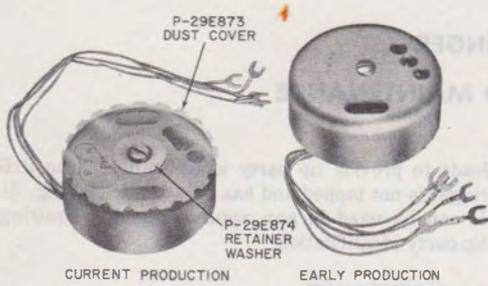
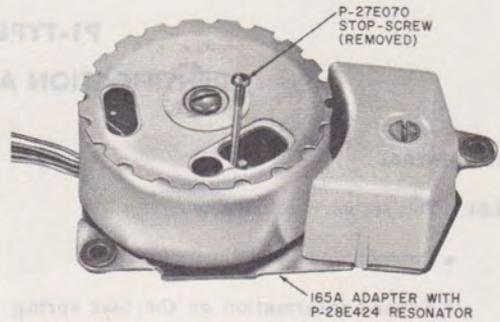
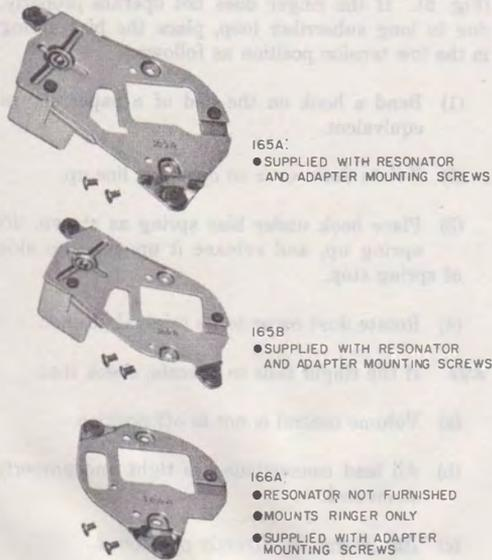

Fig. 1—PIA Ringer
Fig. 3—P1-Type Ringer Mounted on 165A Adapter
Fig. 2—P1-Type Ringer Adapter Plates
2.01 The P1-type ringer (Fig. 1) is a single-coil, high impedance ringer mounted directly in a telephone set or by means of a 165- or 166-type adapter (Fig. 2). The 165-type adapter is equipped with a P-28E424 resonator (Fig. 3).
2.03 The volume control can be moved to the cutoff position by rotating the dust cover until the openings line up with the access holes in the top of the gong and removing the factory placed P-27E070 stop screw (Fig. 3).